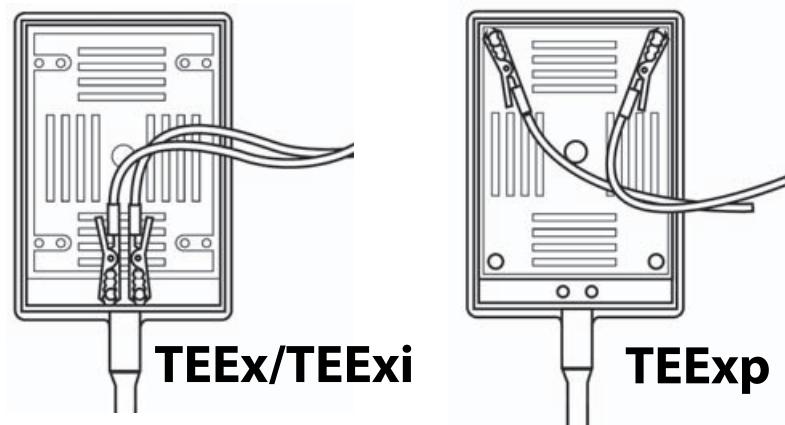

Figure 3 Transducer connector attachment
- Connect the red leads to the knurled socket cap screws on the transducer connector as shown in **Figure 3**. The configuration of the leads depends on the model of transducer you have. See step 2b to determine your transducer model.